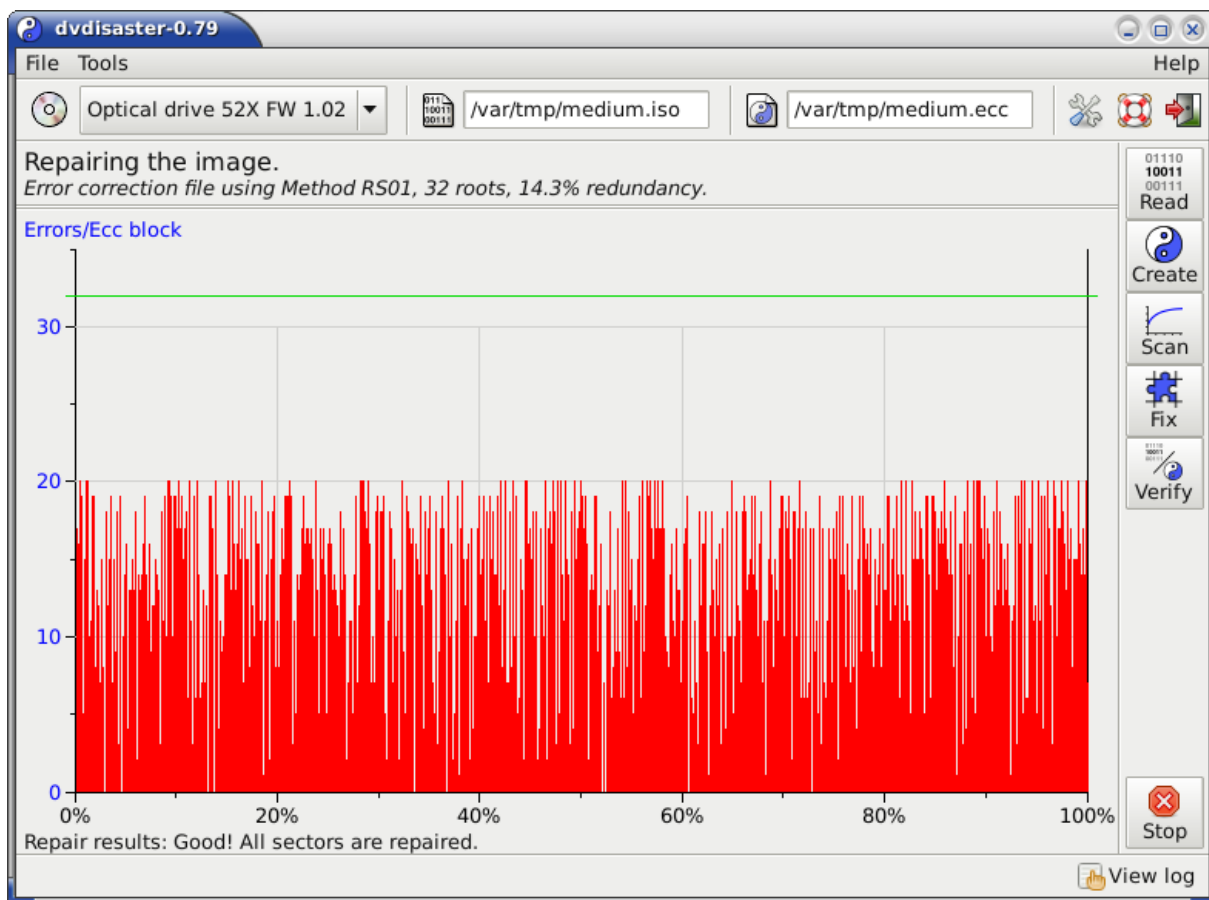

Figure 2: Repairing the defective image.
**Repairing the defective image.** The image which has been just read is incomplete since about 23.600 sectors could not be read. These sectors are now reconstructed using the error correction data created with dvdaster. During the recovery a maximum of 20 errors per error correction block is encountered (see figure 2). This results in a peak error correction load of 63%, meaning that this degree of damage is handled well by error correction data created with default settings. The recovered image can now be written to a new medium.